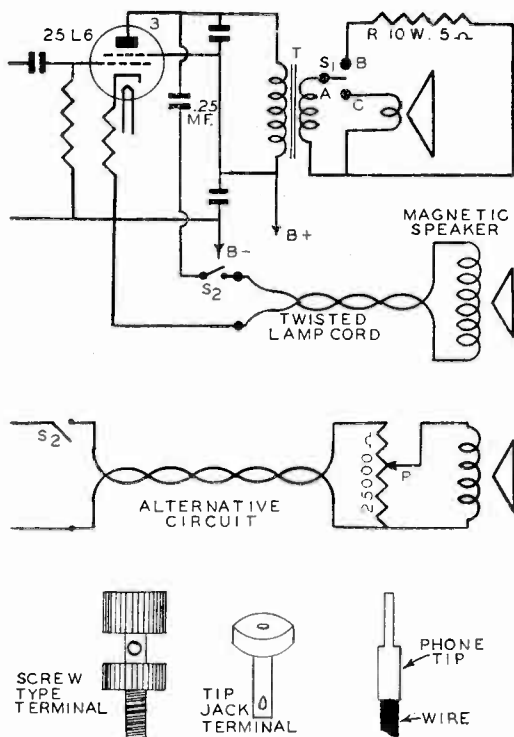

Fig. 1
magnetic speaker to a single-ended output stage, of a typical radio receiver using a type 25L6 in the output stage, is illustrated in Figure 1. Switch S1 is a single pole double throw switch. When the Arm (A) is thrown to position B, the radio loudspeaker is disconnected and the 5-ohm resistor is placed in the circuit.*
To prevent blasting of the speaker, it may be necessary to use a volume control as shown in the lower part of Figure 1. The potentiometer P may have a value of approximately 25,000 ohms. Tip jacks can be used for connecting the speaker and the ends of the twisted wires may be fitted with phone tips which are soldered on. The tips are then plugged into the tip jacks. If you wish, screw type terminals may be used. It would be possible to solder the connections but this might lead to inconvenience in the event the connections must be broken or taken off temporarily for repair purposes later on.
The circuit illustrated in Figure 1 also could be used with other output tube arrangements employed in a.c. operated radios. This will be explained later on in this article.